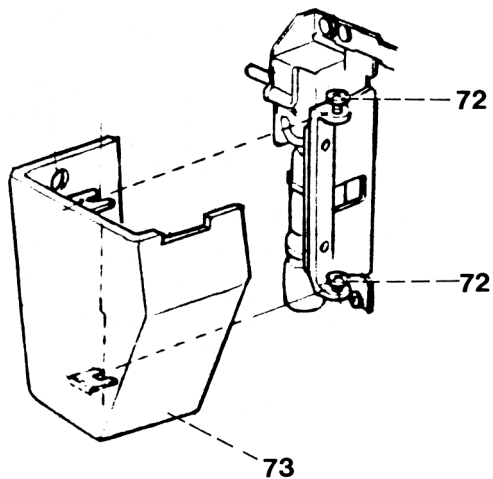

Fig. 26
- Loosens both screws 72 by approx. 2 turns (fig. 26).